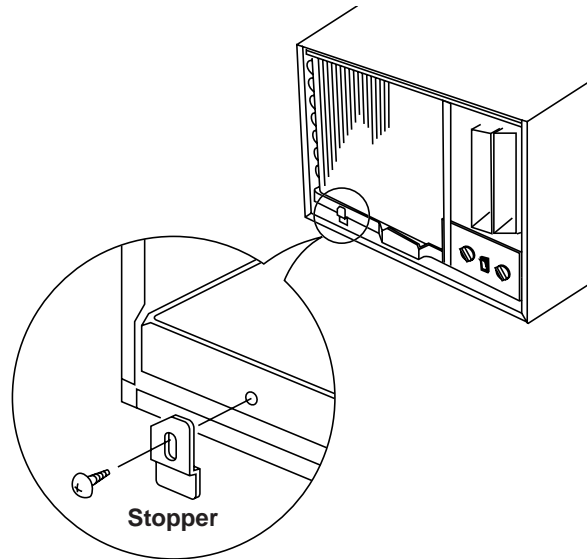

Fig. 6
- (3) Remove the stopper screw attached to the base pan of the unit (Fig. 6)